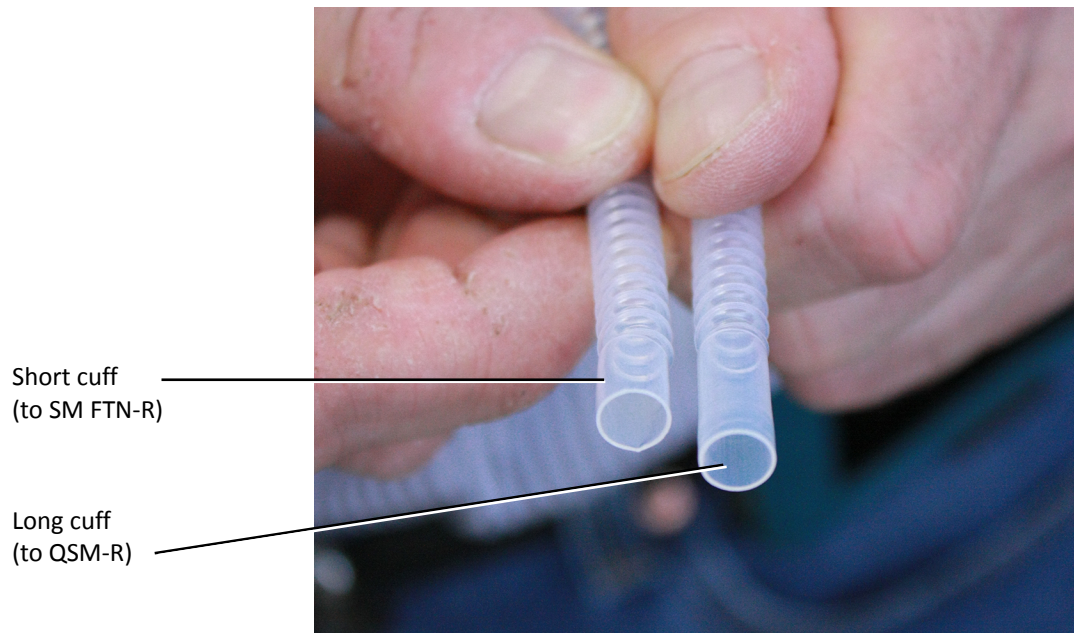
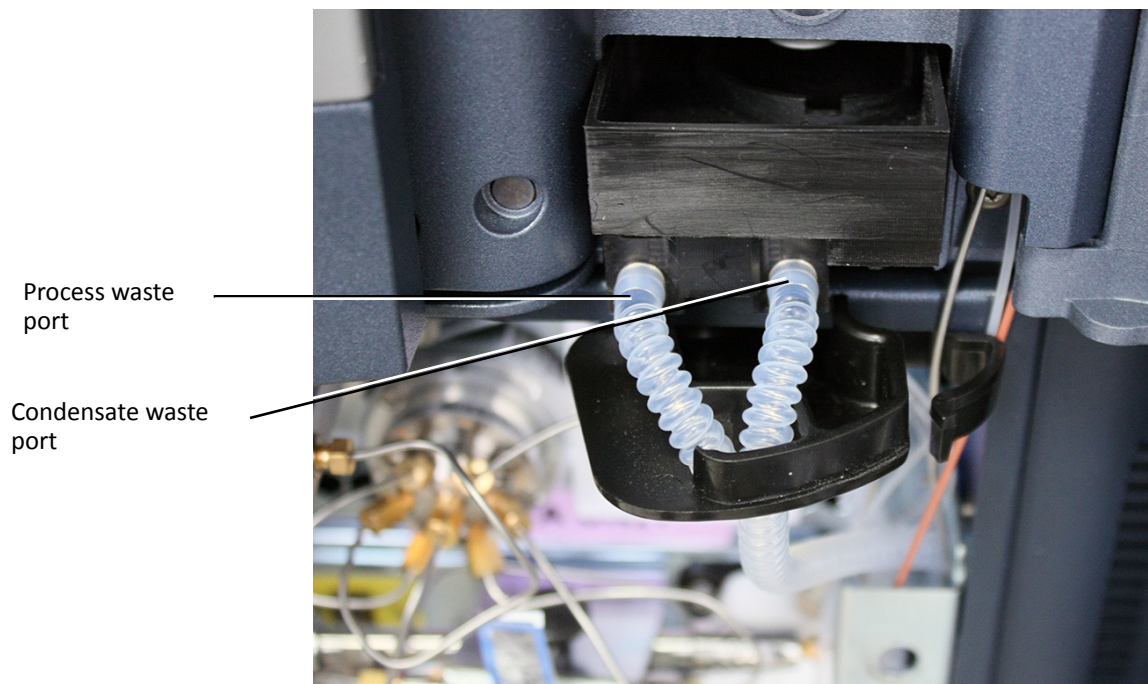

Figure 13 - Short and long cuff ends of the convoluted tubing
Figure 14 - Connecting waste tubing to the SM FTN-R drip tray
1. Making sure you attach the end of the tubing with the short cuff to the SM FTN-R (Figure 13), connect the convoluted tubing to the left (process waste) port of the SM FTN-R drip tray (Figure 14).
3. Connect the shorter piece of convoluted tubing to the right (condensate waste) port of the SM FTN-R drip tray (Figure 14), again making sure you attach the end of the tubing with the short cuff to the SM FTN-R.